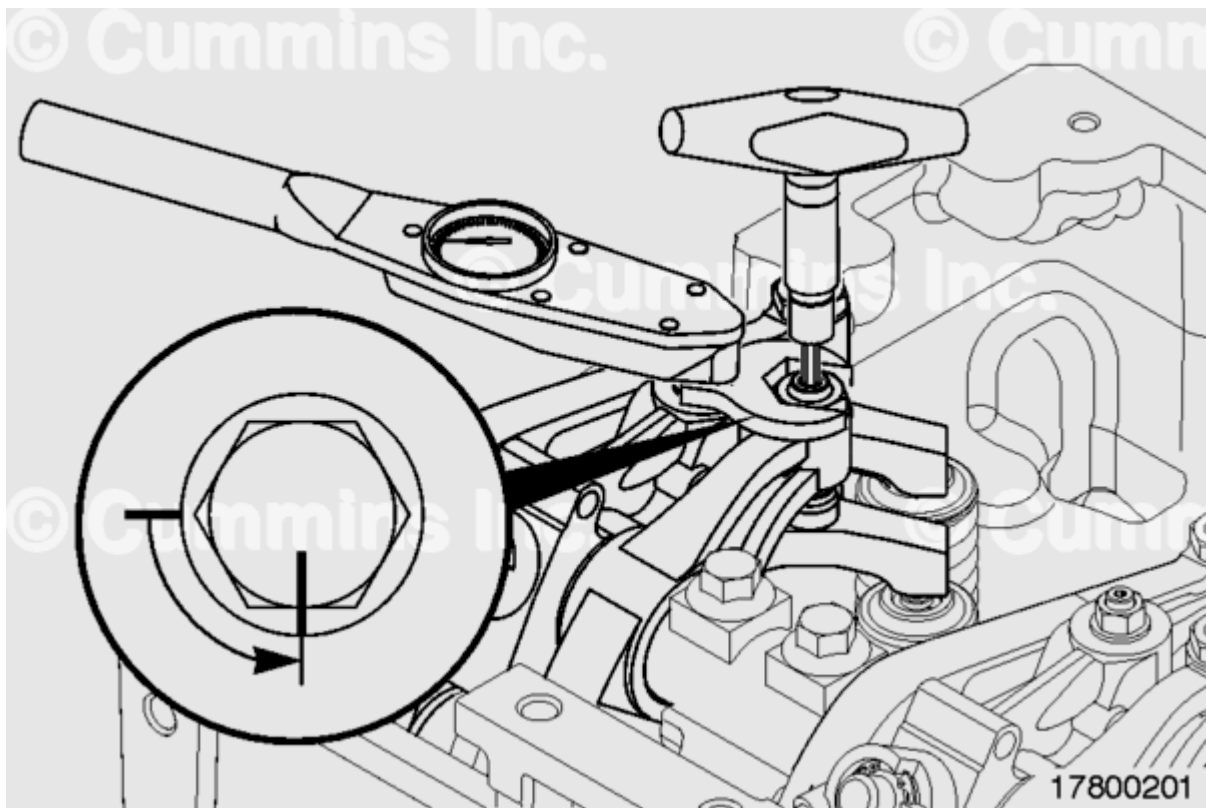

Figure 1
- Slowly increasing torque is applied to the fastener in the loosening direction until the nut rotates noticeably or the capscrew head rotates 90 degrees (Figure 1).